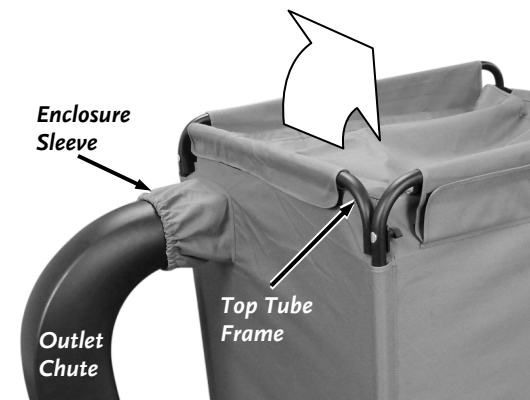

Figure 73
5. Pull the Dump Lever to tip the Collector back (**Figure 72**). Push against the Top Tube Frame to start the tipping (**Figure 73**). Help slide the Enclosure Sleeve off the Outlet Chute if necessary.